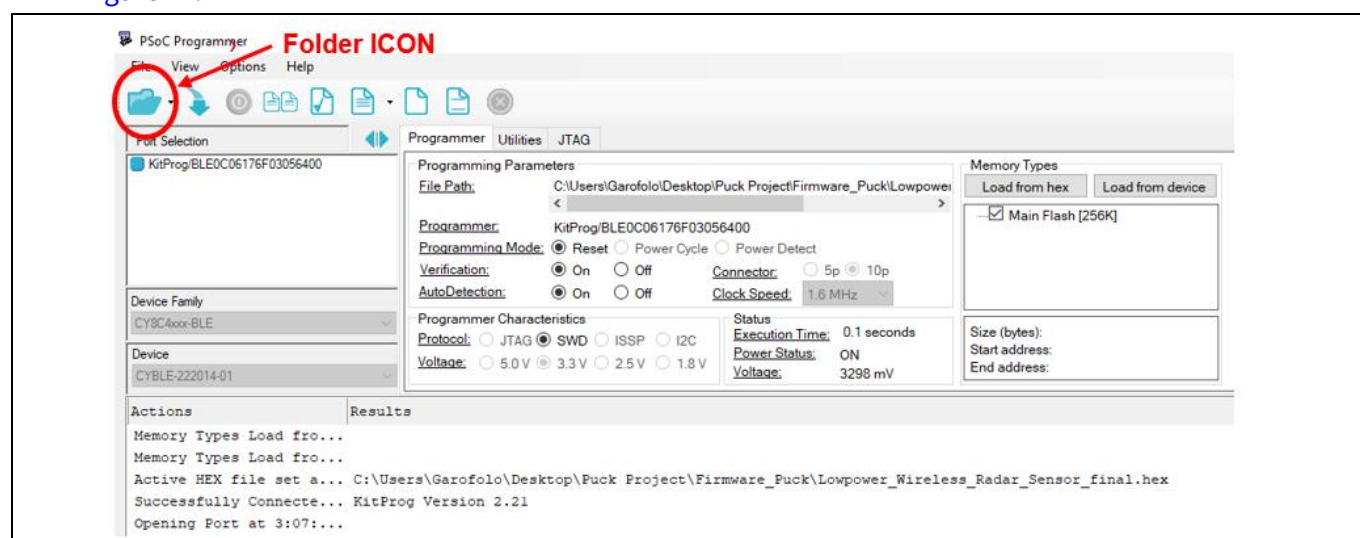

Figure 11 Browse firmware binary image
- Click on the folder icon at the top left-hand corner and a file browser will open. Browse to filename “**Lowpower_Wireless_Radar_Sensor_final.hex**”. The .hex file will show in the file path of the “Programming Parameters” section. A PSOC™ programmer GUI window should be set up like the illustration in Figure 11.